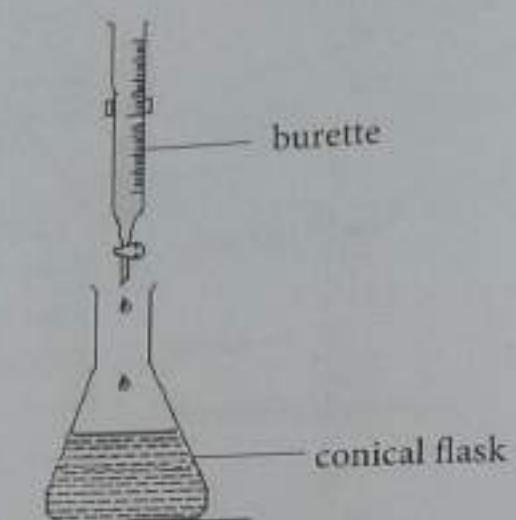

Fig. 4.7 Titration process
- Repeat the titration using the second volume as a guide to the volume required. You can add the acid until you are about 1 cm^3 from the end point, then you add the acid drop by drop. Fig. 4.7. illustrate these steps.